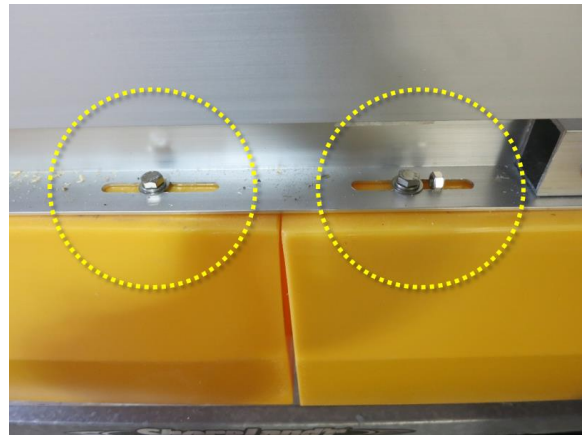

Figure 5. An Attachment Point for Floating Deck & Pontoon
- a. Each pontoon attaches to the floating deck in three sections. Inspect each attachment point to ensure each section is secure. Figure 5 is an example of an attachment point.